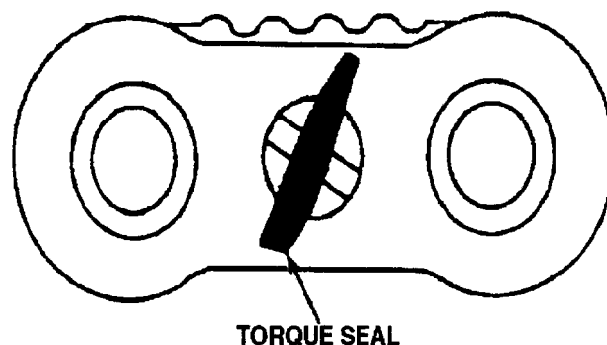

Figure 7. Torque Seal on Connector Link
c. Torque seal unbroken with yoke and plate assemblies installed with knurled portion facing up and screwheads facing outboard (Figure 7). (QA)